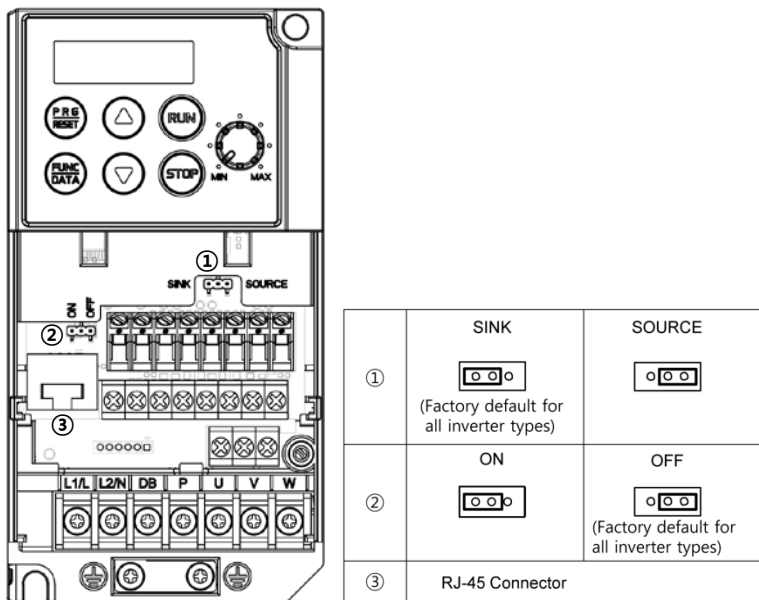

Figure 2.11 Locations of Jumper Switches and RJ-45 Connector
| communication | RJ-45 connector (RS-485) | | <ol style="list-style-type: none"> (1) Used to connect an optional keypad to the inverter. (2) Used to connect the inverter to a computer running Loader via the RS-485 communications link. (For the terminating resistor, refer to Section 2.3.7.) <div style="text-align: center;">  </div> <p style="text-align: center;">Figure 2.10 RJ-45 Connector and its Pin Assignment</p> <p>*Pins 1, 2, 7 and 8 are exclusively assigned to power lines for an optional keypad. When connecting any other device to the RJ-45 connector, do not use those pins. For the location of the RJ-45 connector, refer to Figure 2.11 "Locations of Jumper Switches and RJ-45 Connector."</p> |
Switching the jumper switches (shown in Figure 2.11) allows you to customize the specifications of the digital I/O terminals and the RS-485 communication terminating resistor.
| ① SW10 | <p>SINK/SOURCE switch for digital input terminals</p> <ul style="list-style-type: none"> • To use digital input terminals [X1] to [X3], [FWD] and [REV] in the SINK mode, set a jumper in the sink position, to use them in the SOURCE mode, set a jumper in the source position. (See Figure 2.11.) • To switch between SINK and SOURCE modes, use a mini needle-nose pliers or the similar tool to change the mounting position of the jumper. |
Figure 2.11 shows the locations of jumper switches and the RJ-45 connector.